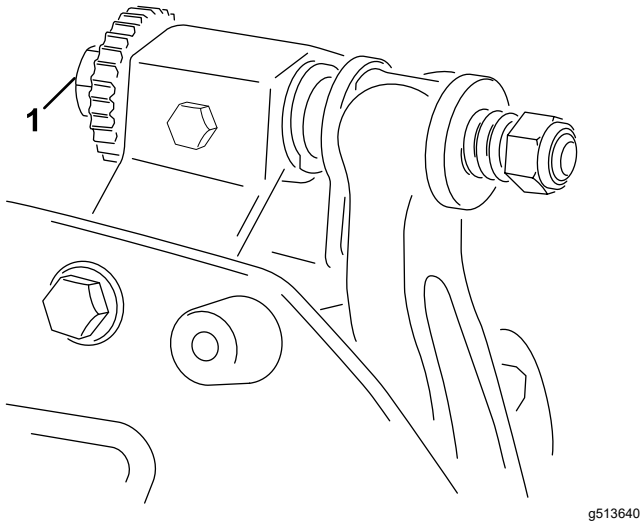

Figure 6
- A. Turn the bedbar adjusting screws clockwise (Figure 6), 1 click at a time, until you feel and hear light contact.
6. Turn the right bedbar adjusting bolt (Figure 6) until you feel light pressure on the shim when sliding it side-to-side. Remove the shim.